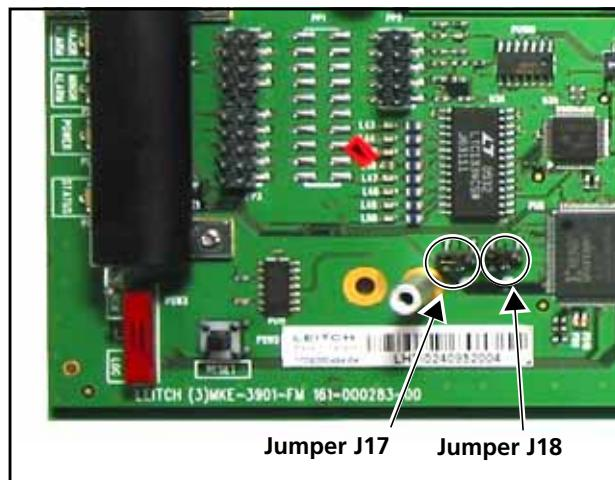

Figure 2-21 Jumpers for Serial Port Standard¹
- J17 and J18: Serial E and Serial A port standards (see **Figure 2-21** for the location)